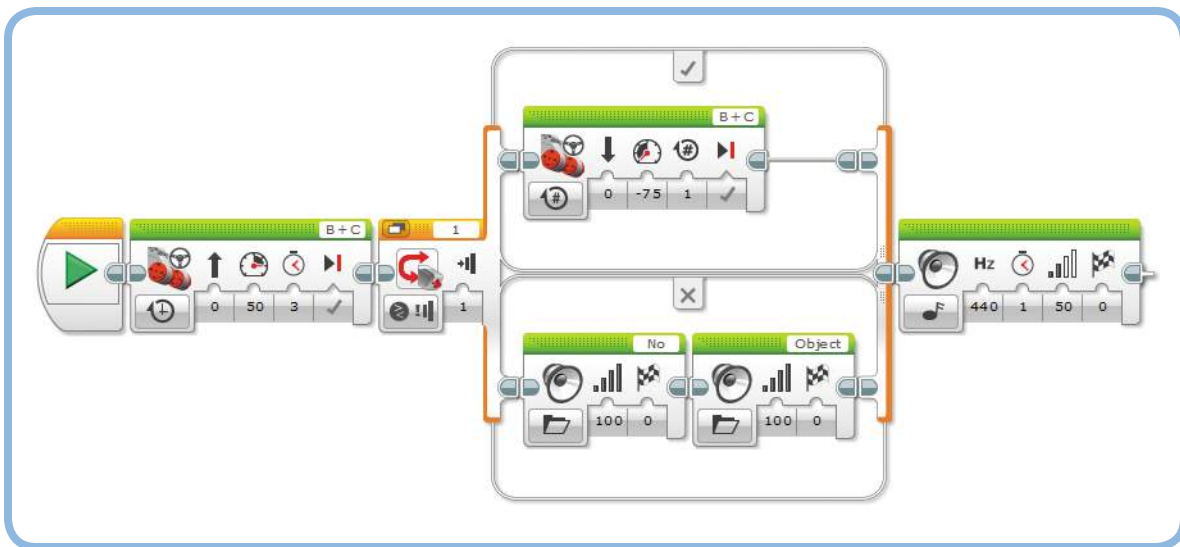

Figure 6-13: The TouchSwitch program has the robot decide what to do based on a sensor reading.
The *TouchSwitch* program you'll now create makes the robot drive forward for three seconds. Then, if the Touch Sensor is pressed, the robot reverses for a short while. If the sensor is not pressed, the robot instead says "No Object." Finally, regardless of the Switch block's decision, the robot plays a tone. Now create the program, as shown in Figure 6-13.
- * A *Switch block in Compare mode* runs the sequence of blocks at the top if the condition is true; it runs the blocks at the bottom if it's false (see Figure 6-13).